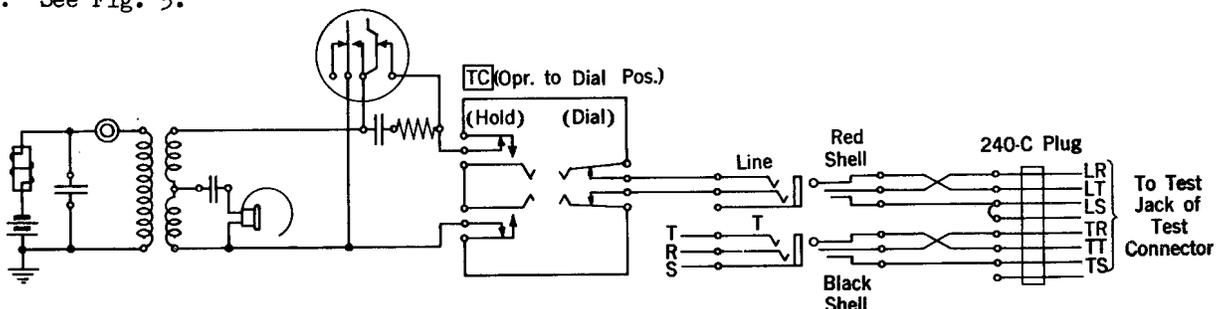

Fig. 5 - Connection to Test Connector
3.02 LINE Jack. Connect to the test connector jack with the test connector cord. Use cord with red plug. See Fig. 5.
3.04 T Jack. Connect to a jack of the line or trunk at the switchboard with a P3E or a P3F cord. Connect to the test connector jack with the test connector cord with the black plug. See Fig. 5.
3.11 When the test connector is used, plug the No. 240C plug into the jack of the test connector. Plug the cord with the red plug into the LINE jack and the cord with black plug into the T jack of the cabinet. Operate the TC key to the dial position and dial the tens' and units' digits thus causing the test connector to select the line. Hold the test connector on the line by operating the TC key to the hold position. This also releases the telephone for use with the test circuit. See Fig. 5.